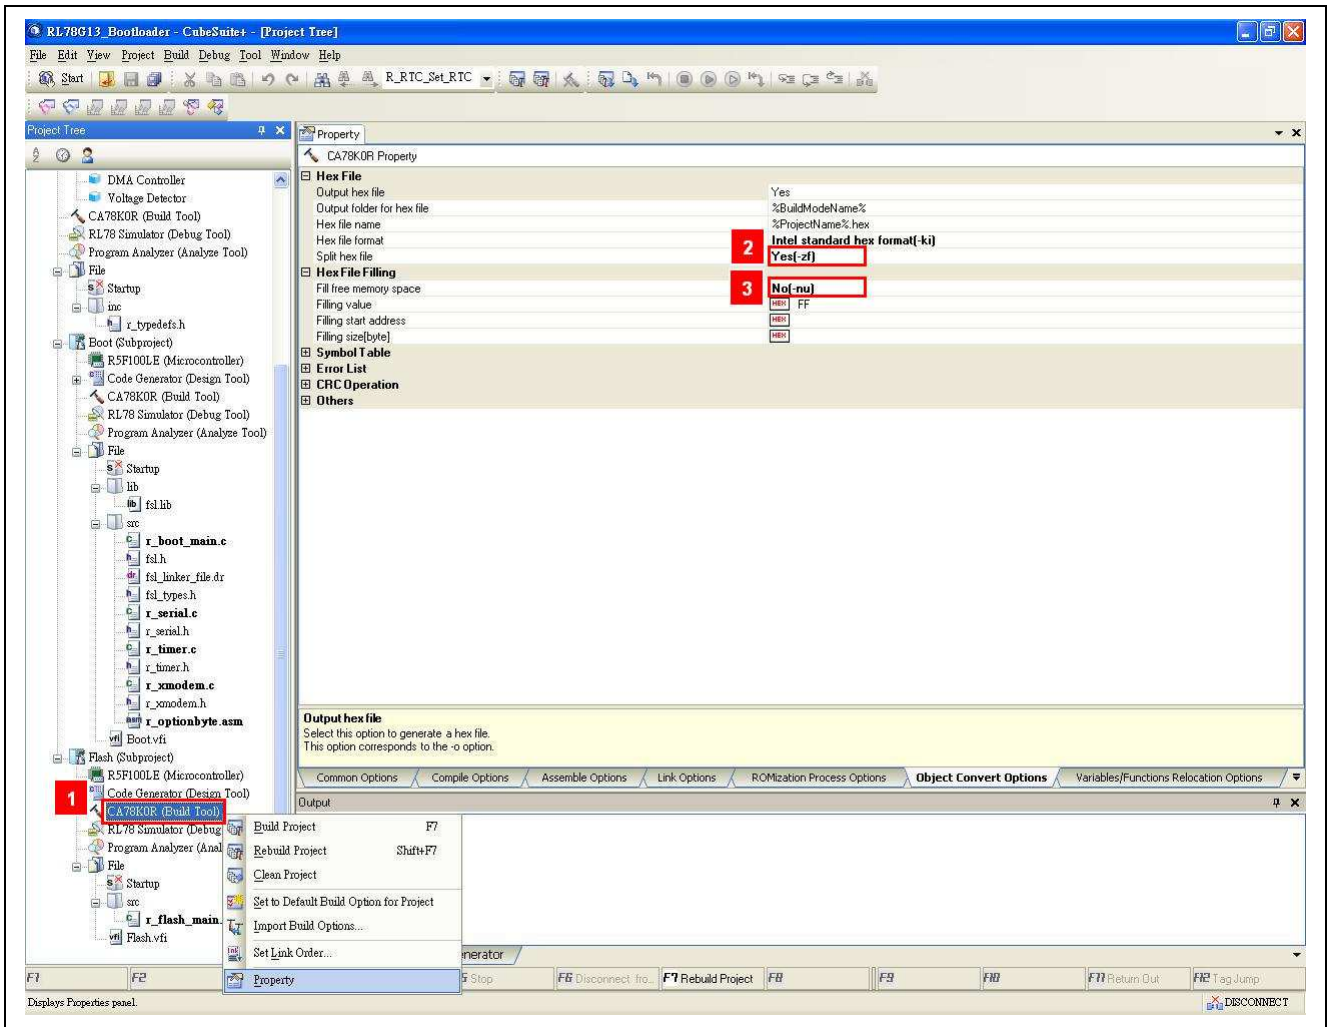

Figure 15 Steps of setting
- (Step 1) Right click the [Build Tool] node on the [Flash] subproject tree (see Figure 15) and select the [Property] option in the context menu (popup menu).